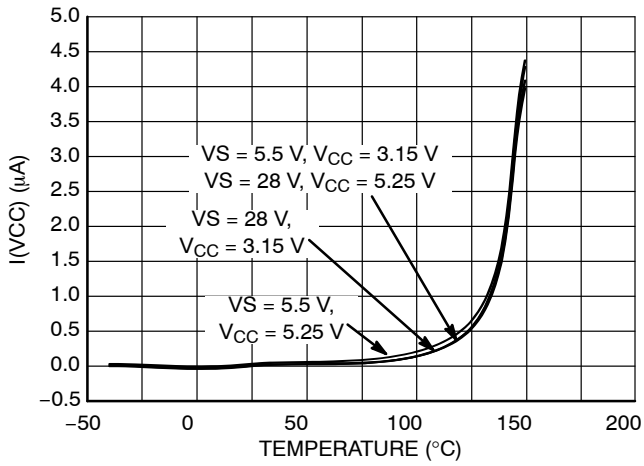

Figure 16.  $I(V_{CC})$  vs. Temperature
- Refer to Figure 16 for the VCC standby current behavior.